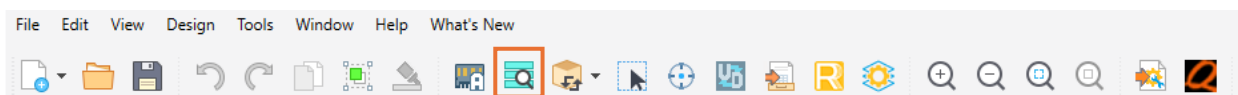

Figure 5.4. Validate Design in Lattice Propel Builder
5. To validate the design, go to **Design > Validate Design** or click the **Validate Design** icon (as shown in Figure 5.4).